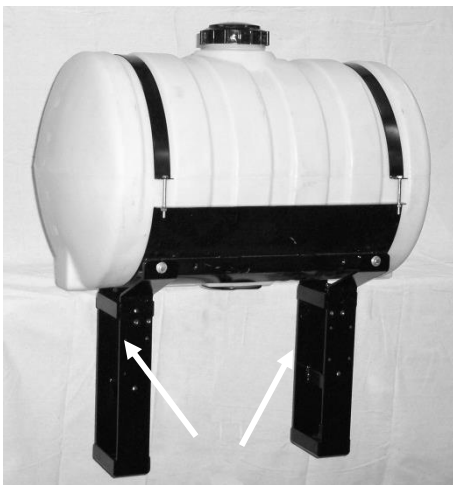

Figure 30
1. Locate the two mounting holes as shown in Figure 30.